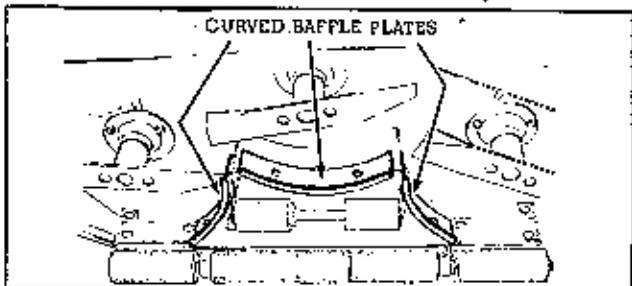

FIG. 6
- Install the curved mulcher baffles (Left Hand, Right Hand, and Center) as shown in Figure 6. These baffles are each held in place by 2 carriage bolts, lockwashers, and hex nuts. Note that lockwashers, and hex nuts are on the inside of the baffle support.